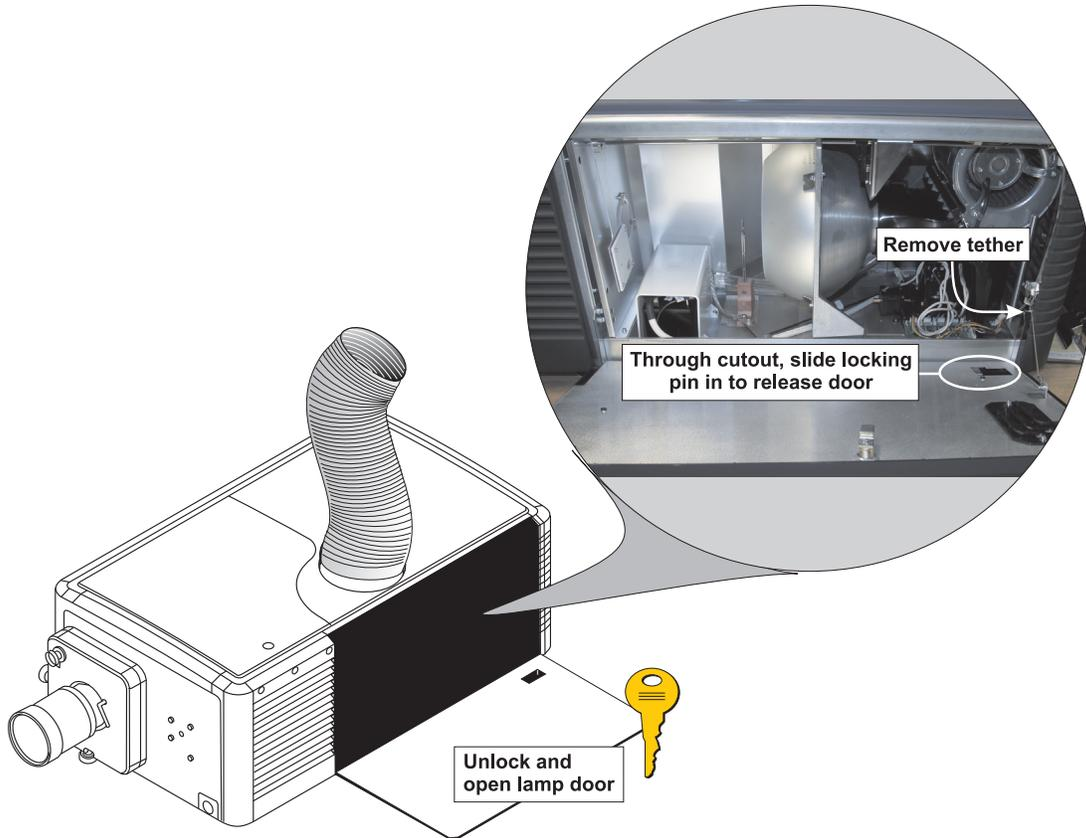

FIGURE 1-4 REMOVE LAMP DOOR
3. Through the cutout on the lower right side of the door, slide the locking pin in to release. See Figure 1-4 on next page.